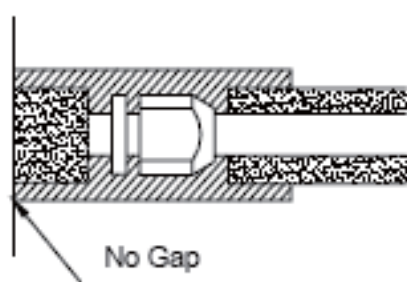

Figure 3-1-6
- The joint connecting to the indoor unit must be wrapped by thermal insulation material. There shall be no gap between the connecting pipe joint and the wall of the indoor unit. Refer to Figure 3-1-6